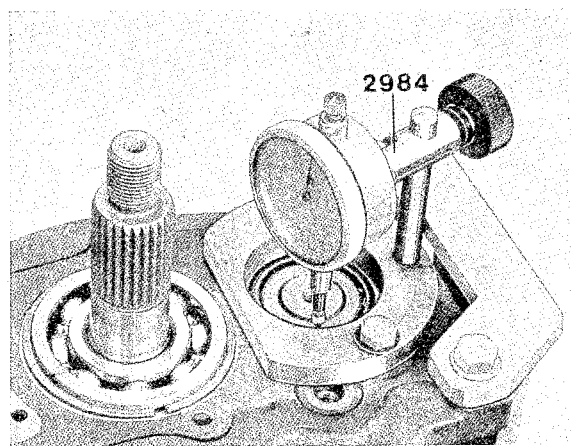

Fig. 4-28. Axial clearance measurement
8. Turn the transmission with the rear end upwards. Fit the gasket and place a 0.7 mm (0.028") shim on the rear bearing outer ring. Fix the measuring stand 2984 with two bolts as shown in Fig. 4-28. Mark up and place the dial indicator with the measuring point facing the inner ring.